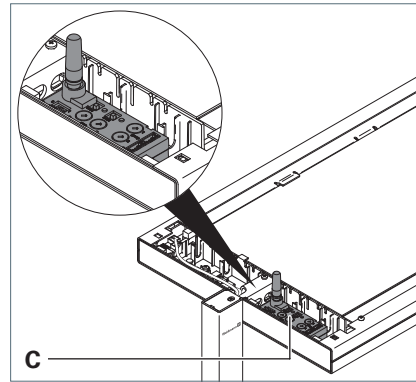

Fig. 2: Module in a LAVIGO luminaire head.
- ▶ Insert the module **C** into the unused area in the luminaire head, see Fig. 2. With LAVIGO VTL: Move the lug of the TALK module under the lug of the TIME module.